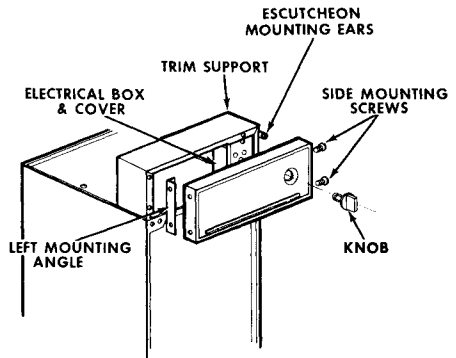

Figure 14 - Removing solid escutcheon.
2. Turn key to "stop" and withdraw knob. See Figure 14.